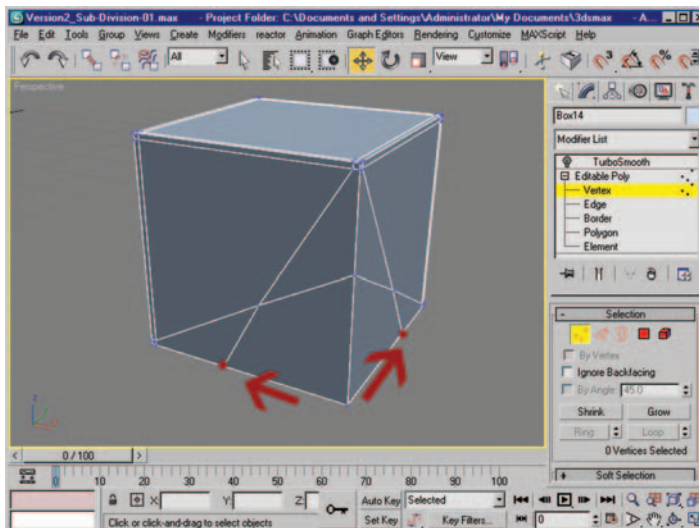

Figure 6.20 Lower verts moved along edges using Edge Constraints.
6. Move the corresponding vertices at the bottom of the cube approximately the same distance along the bottom edges using Edge Constraints (Figure 6.20).